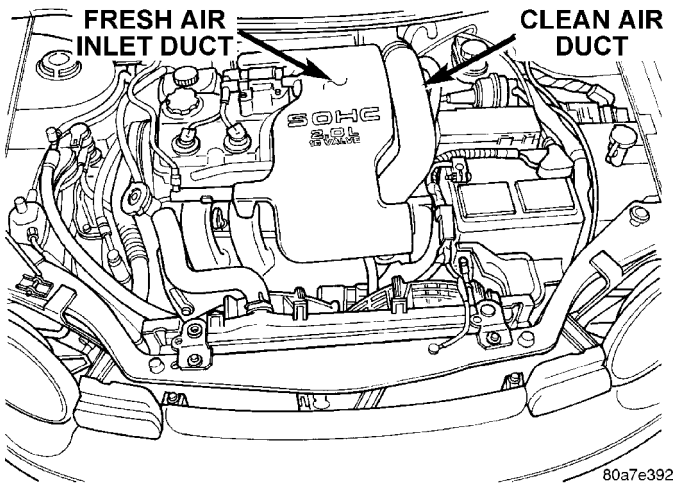

Fig. 13 Clean Air Duct to Throttle Body Assembly
- (1) Disconnect negative cable from battery.
- (2) Remove fuel filler cap.
- (3) Remove the fresh air duct (Fig. 13).
(9) Remove clean air duct and upper air filter housing (Fig. 13).